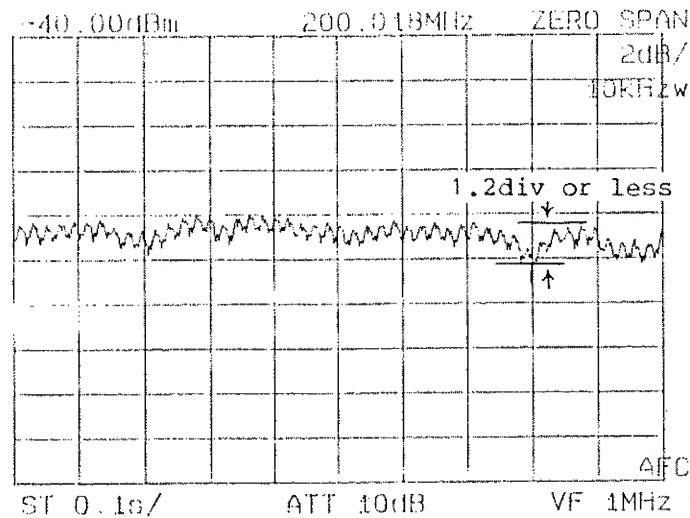

Figure 11-8 Residual FM Test
- ③ Reduce the spectrum analyzer frequency span to 100 kHz. If the 200 MHz signal moves from the center of the display screen, center it again by turning the TUNING dial. The resolution bandwidth is set to 10 kHz.
- ④ Set the spectrum analyzer to the ZERO SPAN mode, and turn the TUNING dial to bring the signal level closer to the center line on the display screen.
- ⑤ With the sweep time/division set to 0.1 second, press the STORE switch twice to keep the waveform still. Check that the peak-to-peak level change in any division (that is, 0.1 second) on the horizontal axis is 1.2 divisions or less as shown in Figure 11-8.
Therefore, if the peak-to-peak level change as shown in Figure 11-8 is less than 1.2 divisions, it follows that the residual FM is less than 2 kHz.